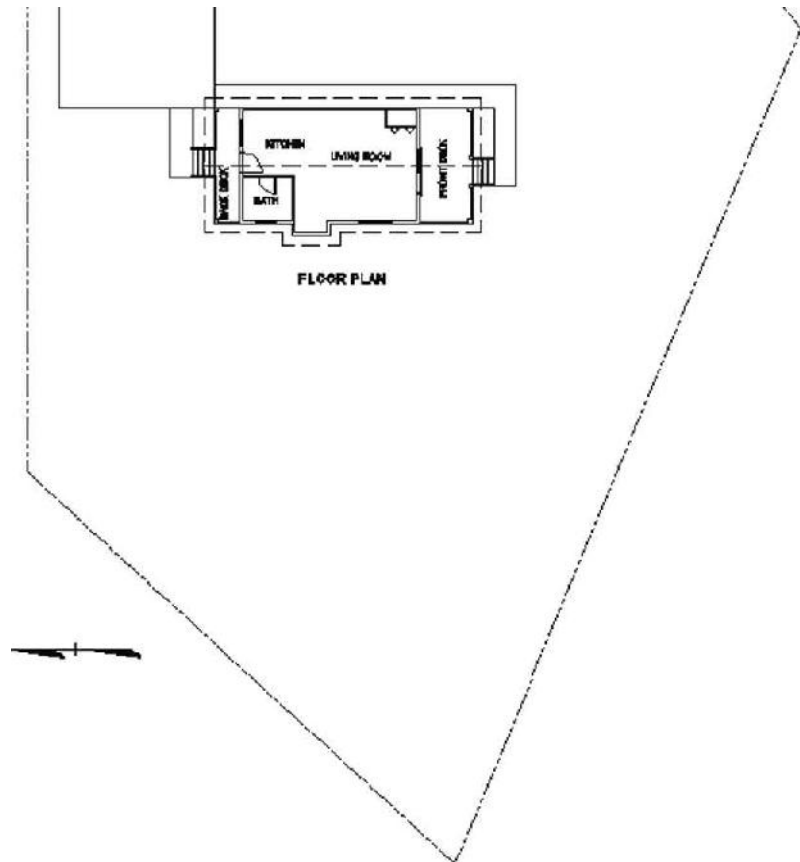

FIGURE 13.23: The cabin and the lower portion of the property line
2. Zoom in to see the cabin and the lower portion of the property line (see Figure 13.23).